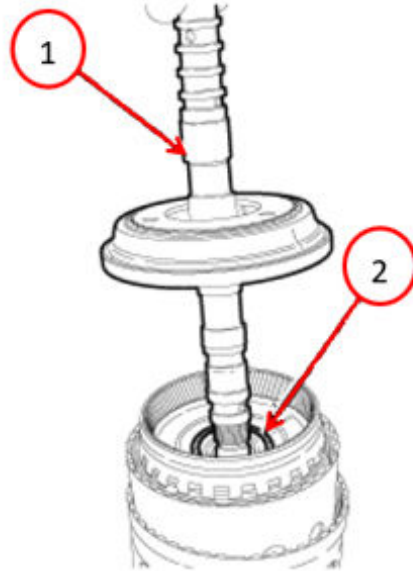

Fig. 30
45. Install the snap ring in the orientation shown (snap ring will only install one way) with the locating tabs Fig. 30.